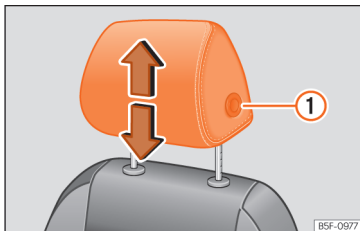
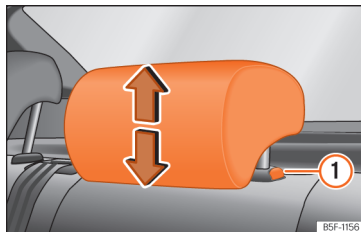

Fig. 75 Front seat: adjusting the head restraint.
Fig. 76 Rear headrest: adjusting the headrest.
- Grab the sides of the head restraints with both hands and push upwards to the desired position. To lower it, repeat the same action, pressing the button on the side (1) »» Fig. 75 , »» Fig. 76.